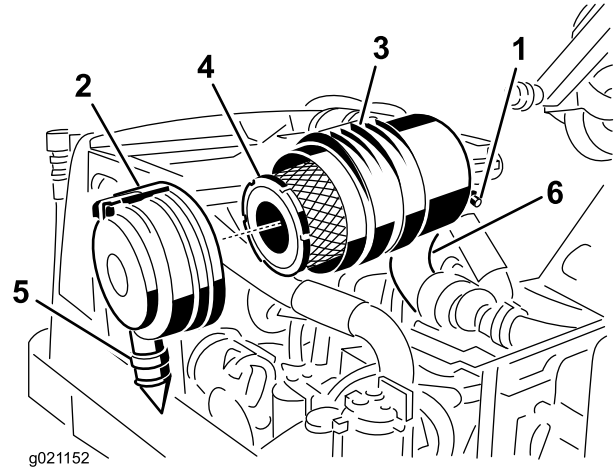
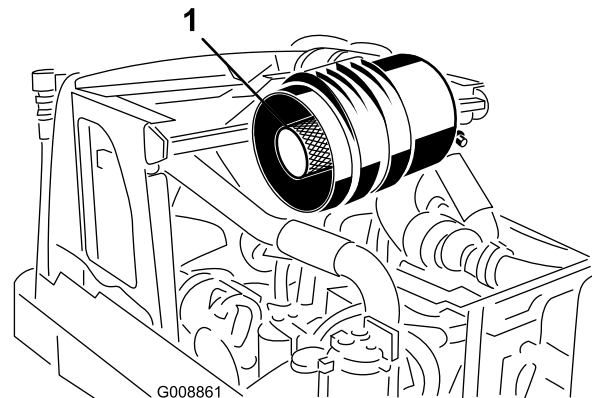

Figure 59
Figure 60
1. Pull the latch outward and rotate the air cleaner cover counterclockwise (Figure 59).
2. Remove the primary filter (Figure 59). Cleaning of the used element is not recommended due to the possibility of damage to the filter media. Inspect the new filter for shipping damage, checking the sealing end of the filter and the body. Do not use a damaged element. **Do not** remove the safety filter (Figure 60).
Important: Never attempt to clean the safety filter (Figure 60). Replace the safety filter with a new one after every three primary filter services.
3. Replace the primary filter (Figure 59).
- Install the cover orienting the rubber outlet valve (Figure 59) in a downward position - between approximately 5:00 to 7:00 when viewed from the end. Secure the latch.